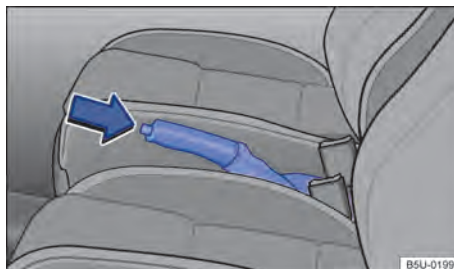

Fig. 87 Between front seats: handbrake lever.
- Press the interlock button and pull the handbrake lever upwards → Fig. 87 (arrow).
- Pull the handbrake lever slightly upwards and press the lock button → Fig. 87 (arrow).